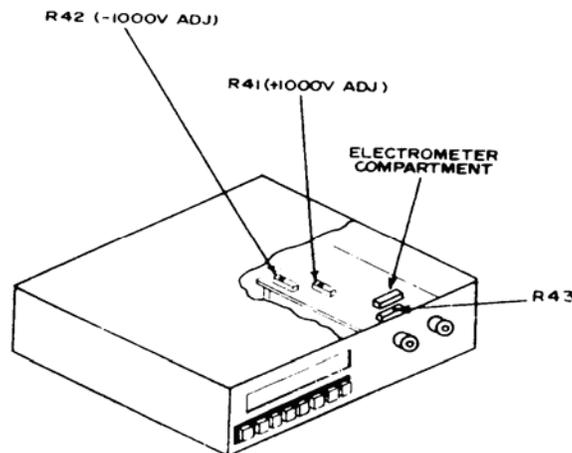

Figure 2. High resistance standard-top interior view.
(1) Adjust **ZERO** control until multimeter indicates 0 V.
(2) Set **TEST VOLTS** switch to **1000** and adjust R41 (fig. 2) for a +1000 V indication on multimeter (R).
(3) Set **TEST VOLTS** switch to **1000** and adjust R42 (fig. 2) for a -1000 V indication on multimeter (R).
- (1) Adjust **CAL** (front panel) control for TI indication of measured resistance value for terminals 1 and 11 (100 M Ω) recorded in **a** (1) above at 1 V and **RATE 10**.
- (2) Release all **RATE** pushbuttons. Adjust R43 (fig. 2) for TI indication equal to value recorded in **a** (1) above (R).